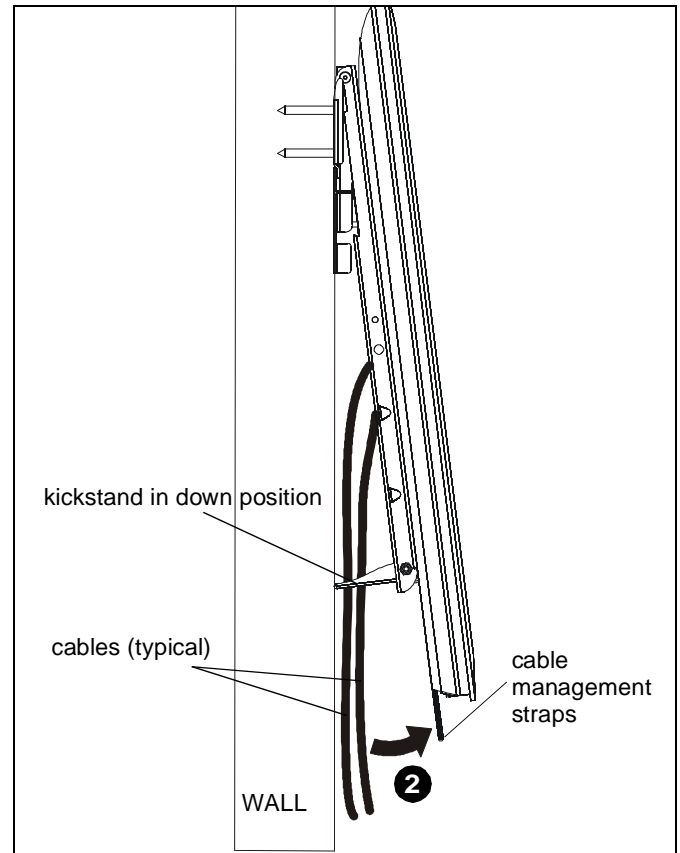

Figure 8
- Slowly pull bottom of display away from wall until kickstand fully reaches its down position. (See Figure 8)
- To disengage kickstand, slightly pull display away from wall and pull down on cable management straps to release kickstand. Slowly allow display to return to the wall. (See Figure 8)